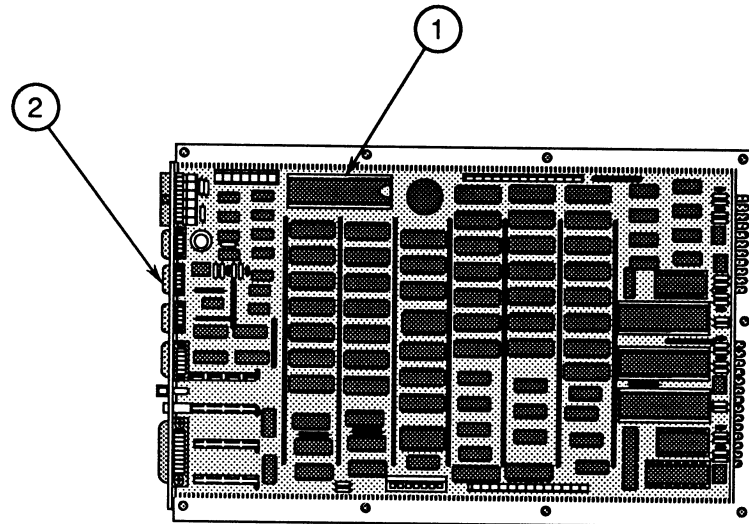

FIGURE 3
8. Locate the keyboard encoder ROM at coordinate J13 (Figure 3, #1) on the main logic board and verify that it is the old ROM (P/N 341-0035).
9. Using an IC extractor, remove the old ROM at location J13 (Figure 3, #1) on the logic board.
10. Install the new keyboard encoder ROM (P/N 341-0136 or 342-0136) at J13 (Figure 3, #1) on the main logic board. The small notch on the ROM should face **away** from the output connectors (Figure 3, #2).